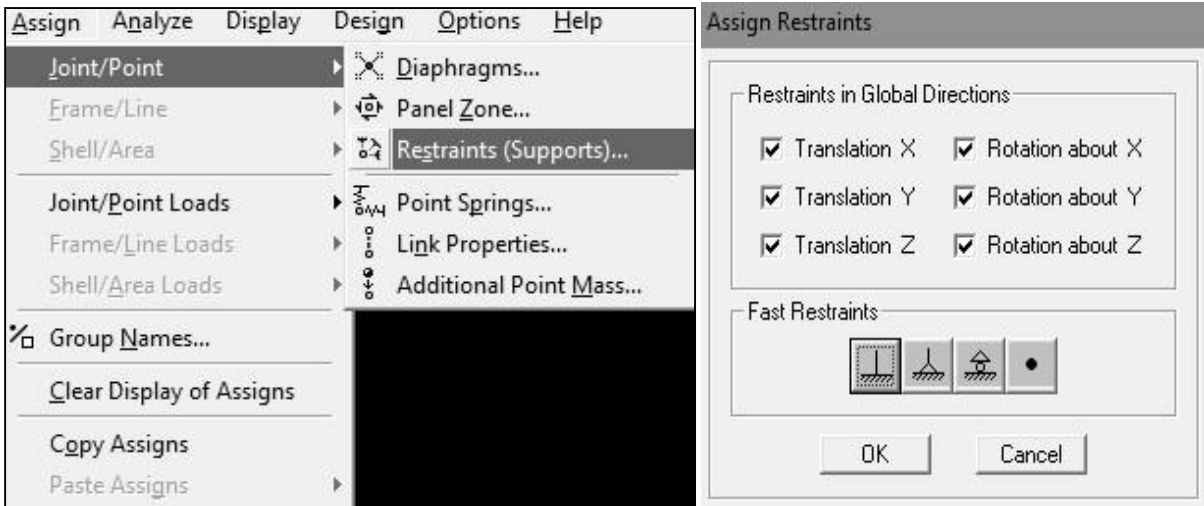

Fig . 4.19
4.1 **Support Assign:** Select the support point at BASE Plan → Assign → Joint/Point → Restraints (Supports) → Then select support type (Fixed, Pin, Roller) by clicking on symbols → OK. (Fig: 4.19)